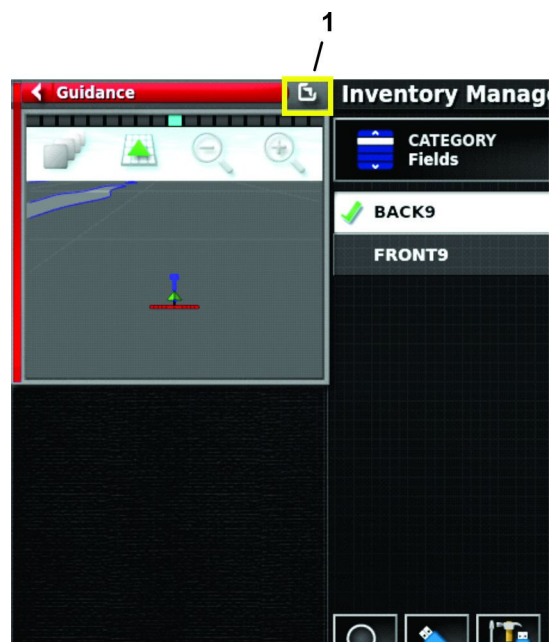

Figure 71
5. Press the RESTORE FULL SCREEN icon (Figure 71).